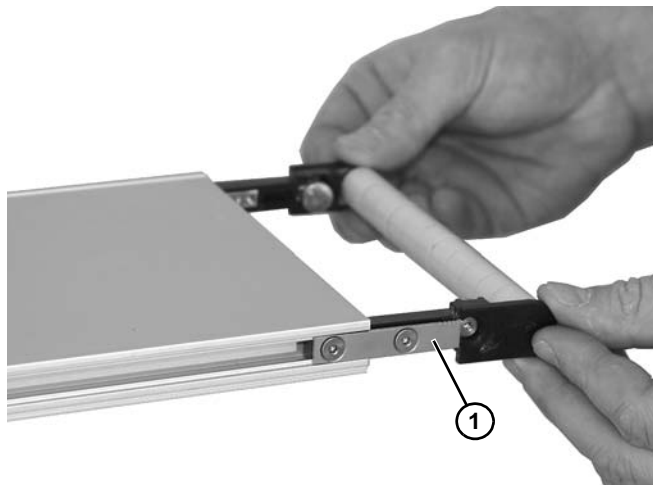

Figure 34
5. Remove the idler spindle assembly (**Figure 34, item 1**) from the conveyor frame.